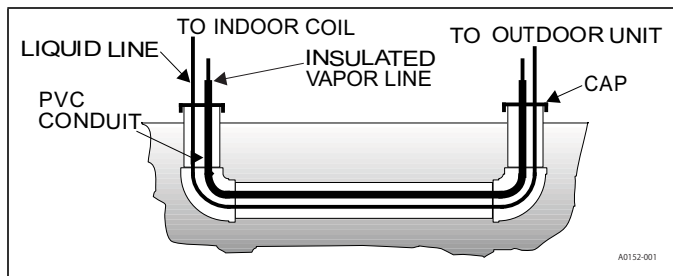

Figure 4: Underground installation
6. Use PVC piping as a conduit for all underground installations as shown in Figure 4. Buried lines must be kept as short as possible to minimize the build up of liquid refrigerant in the vapor line during long periods of shutdown.